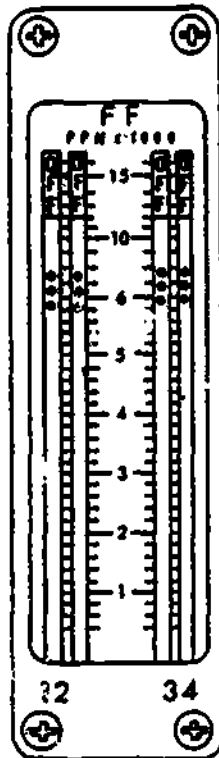

Figure 12.
Each tape in the indicator shows the rate of fuel flow for its respective engine. These indicators are calibrated to indicate the fuel flow in pounds per hour X 1000. The tape is read against a calibrated scale. The indicator has a range from 400 to 16,000 PPH. Look at figure 12. Each numbered increment is read as PPH fuel flow X 1000. From 400 to 6000 PPH the scale is calibrated in 200 PPH increments. From 6000 PPH to 16,000 PPH the scale is calibrated in 1000 PPH increments.
- The vertical scale fuel flow indicator shown in figure 12 will indicate the amount of fuel flow in pounds per